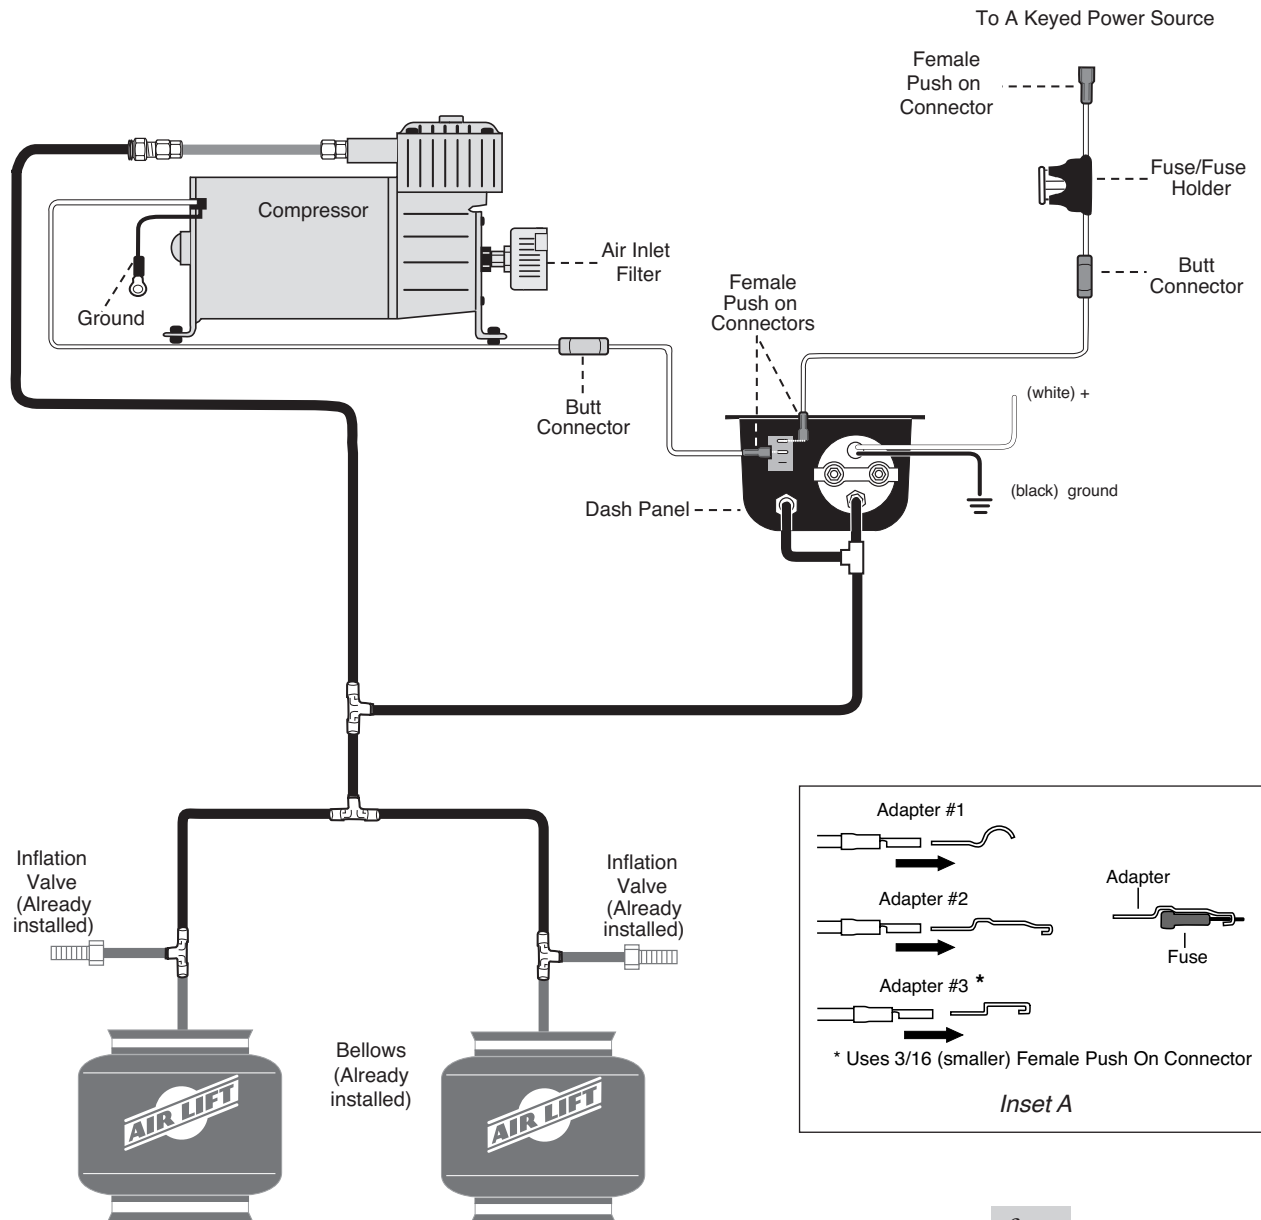

fig. 1
3. Connect the (red) wire from the panel to the (red) wire on the compressor using a blue butt connector (Figure 1). Connect the other end of the wire to the push switch using the blue $\frac{3}{16}$ female push on connector. With your thumb against the front side of the switch, push the connector onto one of the terminals on the back of the ON/OFF switch on the gauge panel.
5. Determine the length of supplied (red) wire required to connect the dash panel to the fuse assembly. Cut and crimp the wire into the butt connector (Fig. 1). Connect the other end of the wire to the push switch using the blue $\frac{3}{16}$ female push on connector. With
- Determine the location of the third tee. Cut the air line between the first two tees and install a third (Figs. 1 & 5).
- Determine the closest and easiest area to connect the gauge panel to the air line between the compressor and air springs. Measure the distance between these two points and cut the air line and install the last tee (Figs. 1 & 5).